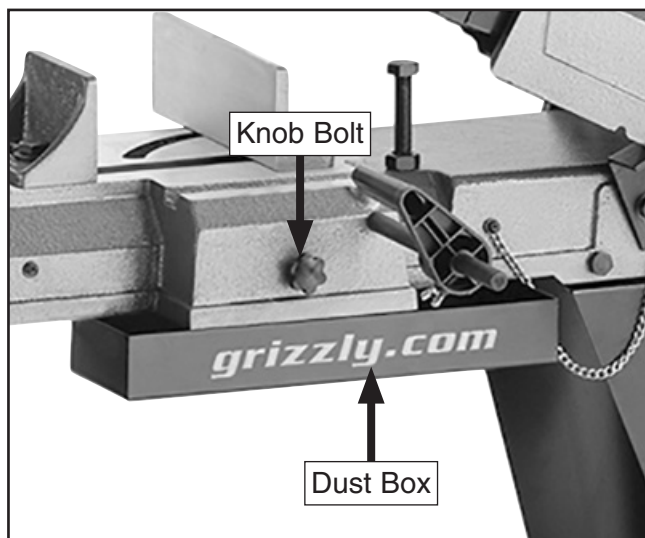

Figure 18. Dust box installed on base.
13. Attach chip tray to base with M8-1.25 x 16 knob bolt (see **Figure 18**).